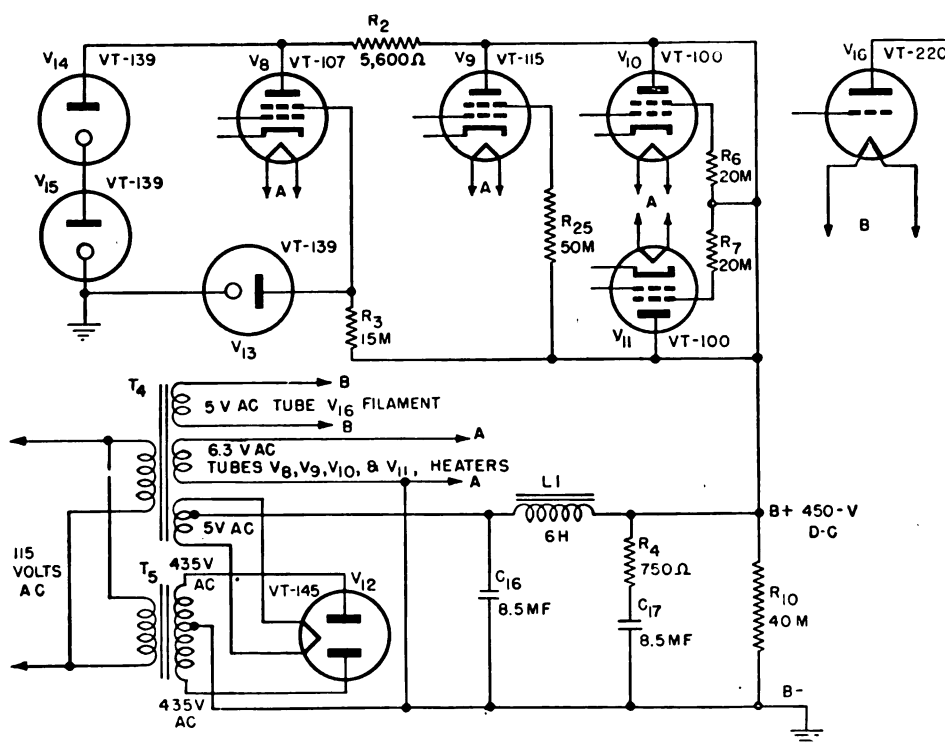

Figure 63. Exciter power supply—functional diagram.
a. EXCITER POWER SUPPLY (fig. 63). The exciter power supply furnishes plate and screen-grid voltage for oscillator tube V_8 , buffer-doubler tube V_9 and intermediate-amplifier tubes V_{10} and V_{11} . Fila-